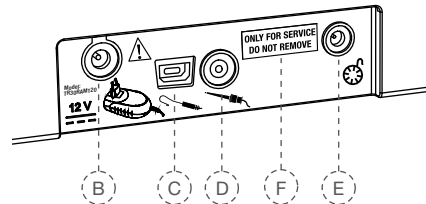

Fig. 3 Rear Connections
The USB port (Fig. 3, F) is used to install software updates or perform maintenance on the device. This port is only to be used by authorised service personnel and is covered by a label "ONLY FOR SERVICE DO NOT REMOVE" on delivery. The label may only be removed by service personnel.
3. Connect the charger cable into connection socket (Fig. 3, B) at the back of the device.
8. Insert the foot pedal cable into connection socket (Fig. 3, E) at the back of the central unit.
10. Insert the plug of the lip clip cable into connection socket (Fig. 3, C) at the back of the central unit.
12. Insert the plug of the file clip cable into connection socket (Fig. 3, D) at the back of the central unit.